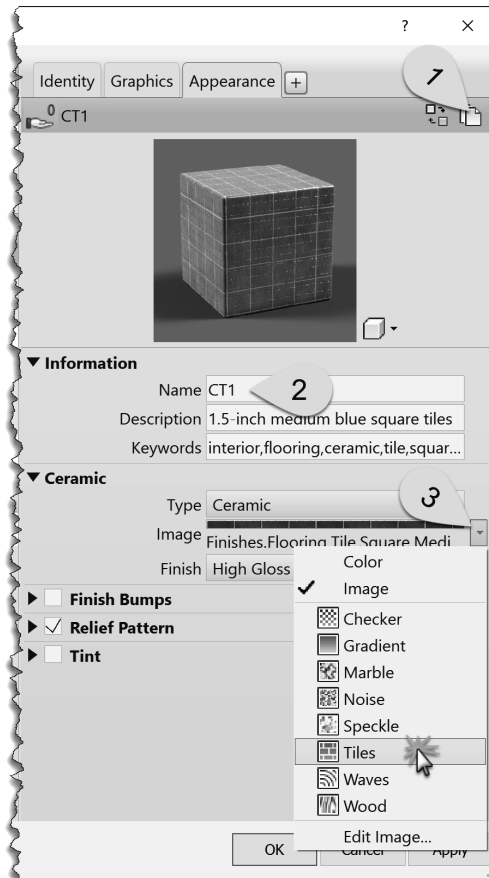
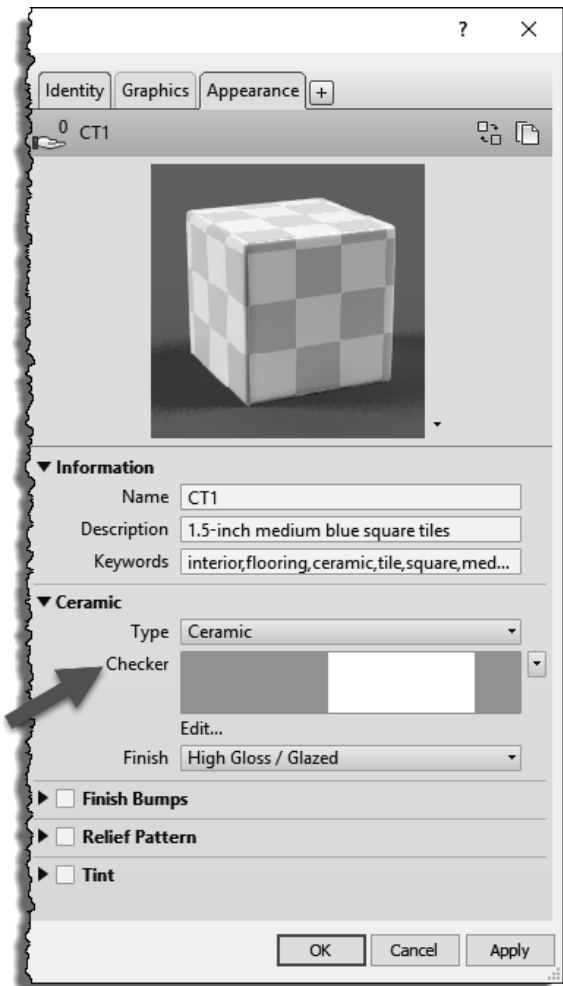

FIGURE 4-4.4 Material Browser; Appearance tab
FIGURE 4-4.6 Material Browser (alternate option)
19. Duplicate the *Appearance Asset* and rename it **CT1** (Steps 1 & 2, Figure 4-4.4).
Notice this material is currently using an image file to represent the tile (Figure 4-4.4). This would be similar to taking a photo of an installed tile and then cropping it so that it repeats nicely. In the next few steps you will take a look at another option for representing tile.
20. Click the down-arrow to the right of the image preview (Step 3, Figure 4-4.4).
The *Material Browser* dialog below shows one of the other options shown in Figure 4-4.4. This is the **Checker** option where you can select two separate colors. This can be used for an entire wall or in an accent area (Figure 4-4.6). Be sure to explore the other options, such as *Wood*, which can be used to represent wood or other things such as art glass.